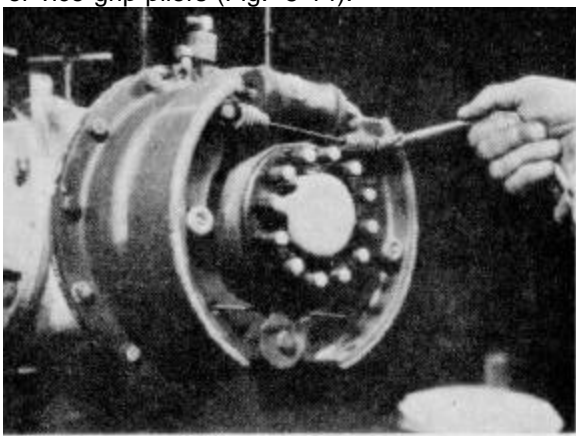

Figure 5-14
1. Remove the brake shoe return spring using a spring tool or vice-grip pliers (Fig. 5-14).